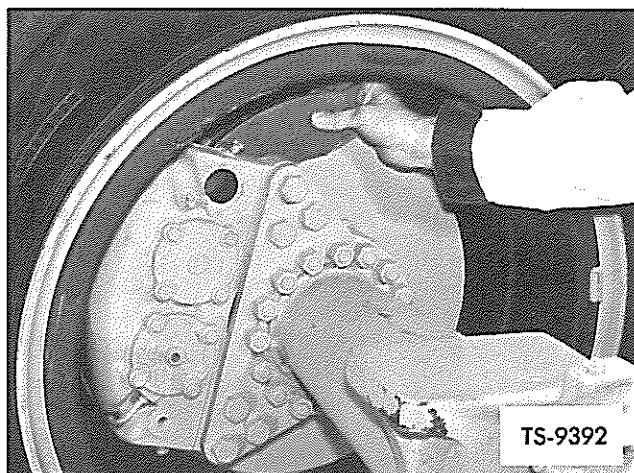

Fig. 8. Remove Brake Lining
7. Refer to Figure 8 and remove brake carrier and lining assemblies from both sides of disc by rotating lining along contour of disc.